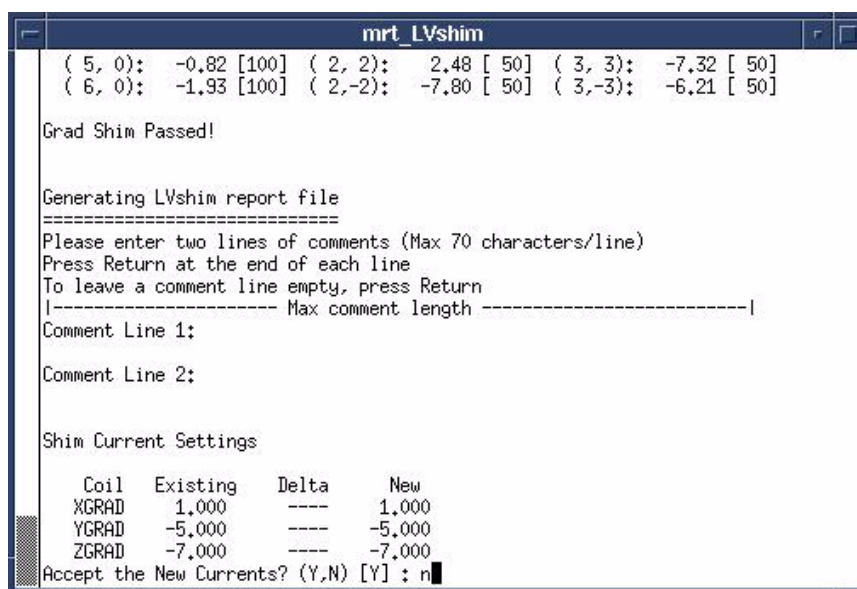

Figure 24
11. To reject the new current values, enter "n" and press the [Enter] key. See Figure 24.